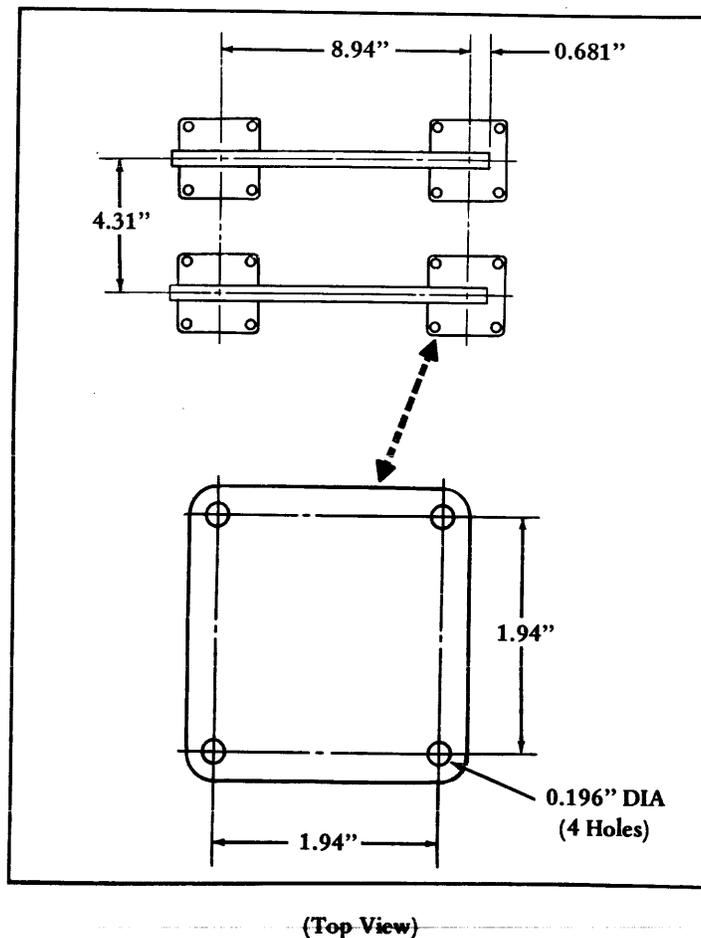

Figure 2 - High Speed Receiver Set Mounting Dimensions
3.01 The High Speed Receiver Set is designed for mounting with or without the provided shock mounts. There are four screw holes in each mount for securing the set to the customers table, shelf, cabinet track or other equipment. For pertinent dimensions, see Figure 2. If the shock mounts are not to be used, they can be taken off by removing their mounting screws. Provisions must then be made by the customer for mounting the set on specific equipment. Mounting dimensions for the punch unit are shown in Figure 3.